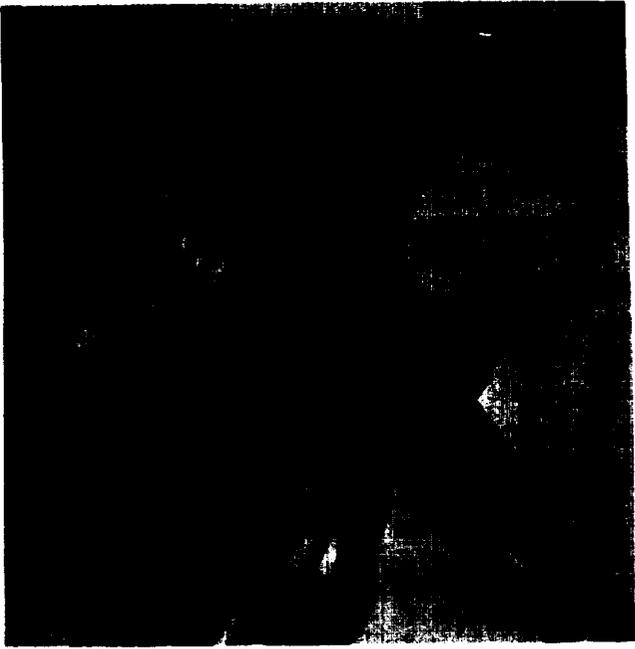

Figure 2-4. Chronograph mount on tripod, showing azimuth deflection level adjust controls.
(11) Loosen azimuth deflection lock knob (fig. 2-4) on leveling base and rotate chronograph until azimuth deflection dial pointer coincides with white stripe on leveling base. Retighten azimuth deflection lock knob. Withdraw travel lock pin from leveling base.